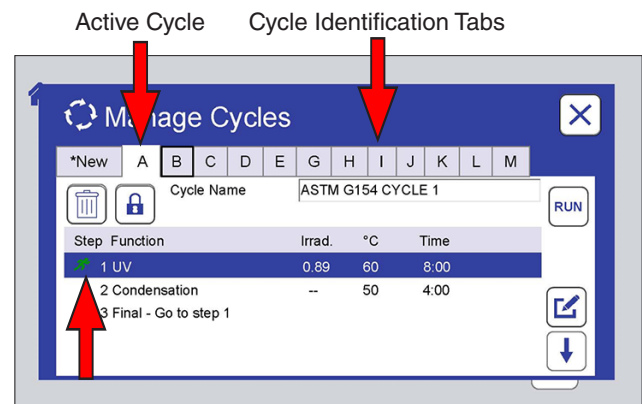

Figure 11.6.1b: Manage Cycles screen. The active cycle is displayed. The currently running step is indicated. Touch any ID tab to display that cycle.
- The Manage Cycles screen is displayed showing the active test cycle and the steps in the cycle, with the currently executing step indicated (Figure 11.6.1b).
- Each cycle is stored with an alphanumeric (A through M) identification tab (Figure 11.6.1b).